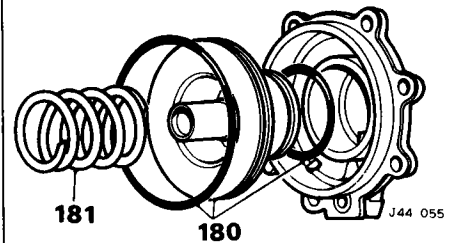

Fig. 54
180. Withdraw the piston from the servo body; remove and discard the 'O' rings (Fig. 54).
- 181. Check the return spring removed during operation 55 for distortion; renew, if necessary (Fig. 54).